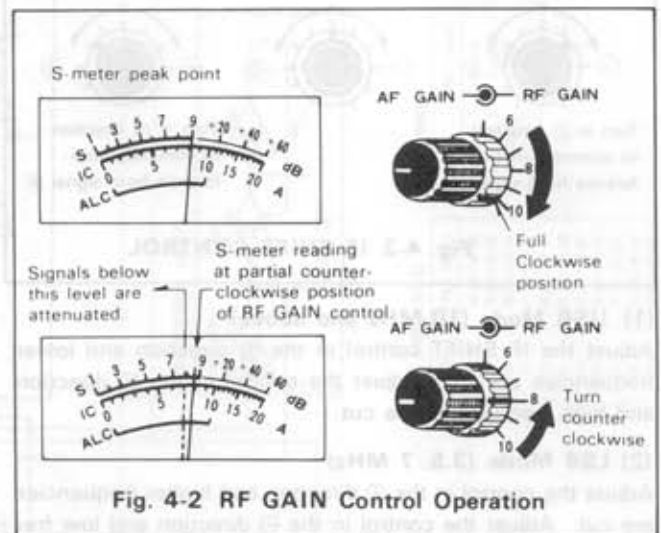

Fig. 4-2 RF GAIN Control Operation
4.1.3. RF GAIN CONTROL. (Fig. 4-2)